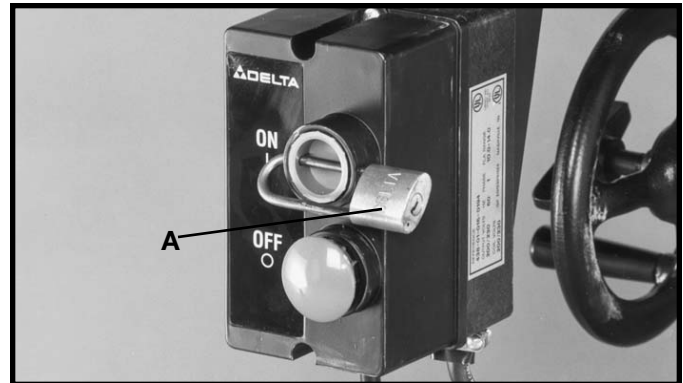

Fig. 40
IMPORTANT: When the machine is not in use, the switch should be locked in the “OFF” position using a padlock (A) Fig. 40, (Delta Cat. No. 50-325), with a 3/16" diameter shackle to prevent unauthorized use. **NOTE: GPE switch shown.**